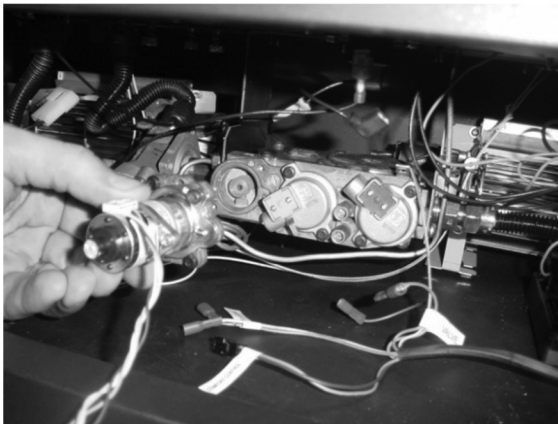
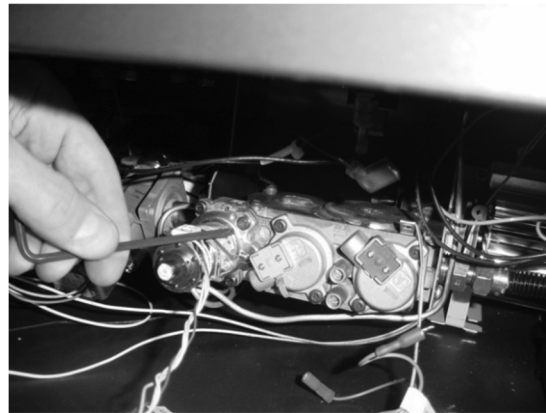

Figure 1
Figure 2
- (b) Remove and discard the Natural Gas (NG) orifice. Place the LP orifice in the pilot assembly then replace the pilot hood, tightening the pilot hood until it is snug (do not over-tighten).
- 7 Remove the control panel to access the gas control valve. The stepper motor (adjustable regulator) has an installation sheet included with it – make sure to follow all of the directions. Place the stepper motor on the gas control valve (see Figure 1) – **MAKE SURE IT IS CORRECTLY ORIENTED**. Secure using the screws included with the motor (see Figure 2) – tighten to 25 Lb-inches. Leak test this area after installation to verify proper installation.